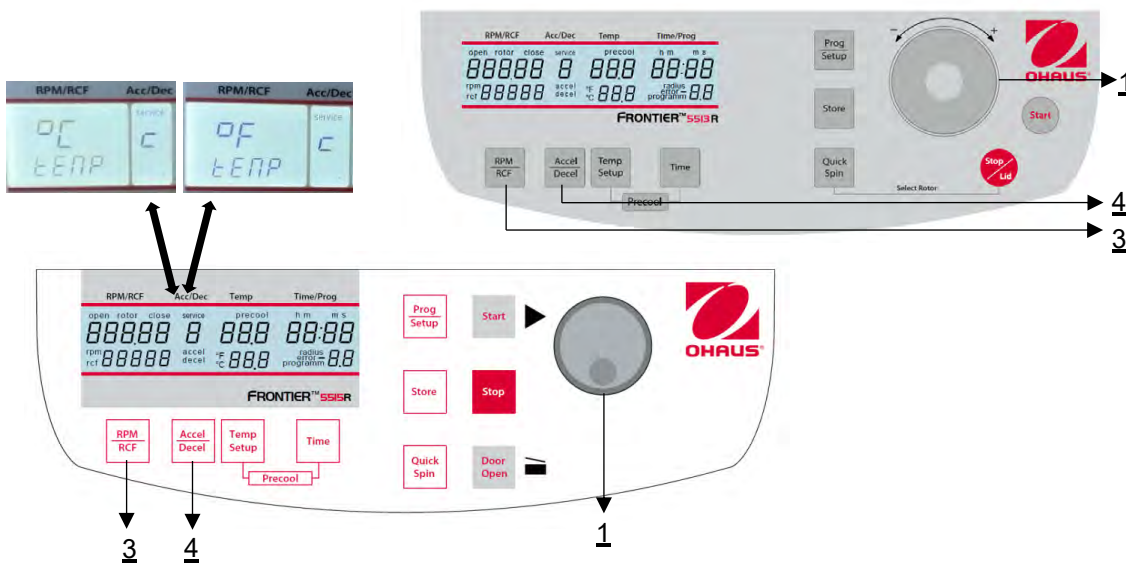

Figure 27
Proceed as described under point 4.1.1 to enter this program mode and then press the key **"Accel/Decel"** (4). In the display **"Acc/Dec"** (A-2) the word **"Service"** (M12) flashes. Now select the letter **"C"** with the adjusting knob / touch wheel (1). As a result, the words **"CELSI/temp"** appear in the display **"RPM | RCF"** (A-1). If you press the key **"RPM | RCF"** (3), the word **"°C"** flashes and you can change the display into Fahrenheit **"°F"** with the adjusting knob / touch wheel (1) (see **Figure 27**).